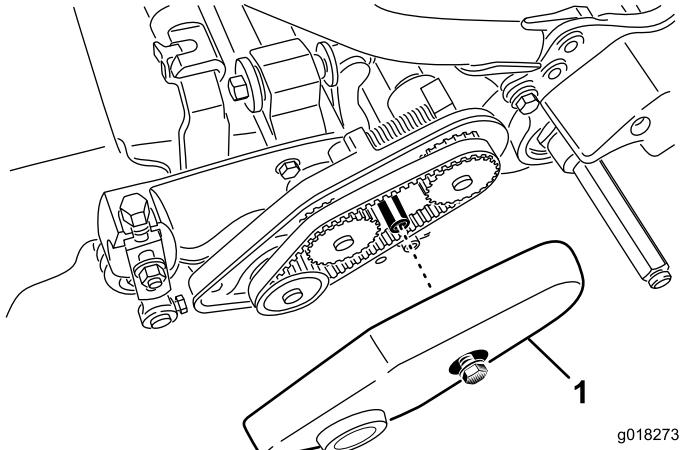

Figure 42
1. Loosen the flange bolt securing the belt cover and remove the belt cover to expose the belt (Figure 42).